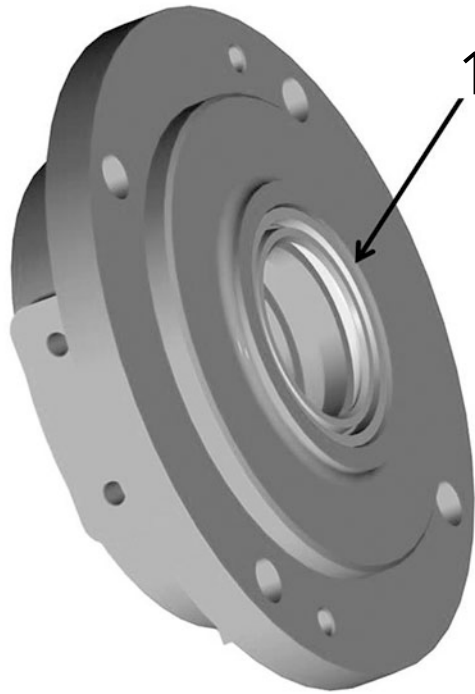

Figure 41: Lip seal installed in bearing housing
5. Place the shoulder ring (item 1) into the bearing body.
6. Press the bearing (item 2) into the bearing body until it sits flush against the inner shoulder of the bearing body.
7. Press a new lip seal (item 3) into the bearing body. Before installing the lip seal, lubricate the lip seal with lightweight oil.
**NOTE:** Lip seals should sit against the machined shoulder in the bearing housing. The lip seal should face away from the mechanical seal seat. (see Figure 41)